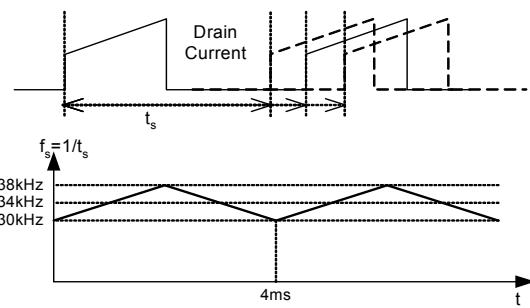

Figure 13. Frequency Modulation Waveform
**7. Frequency Modulation :** Modulating the switching frequency of a switched power supply can reduce EMI by spreading the energy over a wider frequency range than the bandwidth measured by the EMI test equipment. The amount of EMI reduction is directly related to the depth of the reference frequency. As can be seen in Figure 13, the frequency changes from 130KHz to 138KHz in 4 ms for the FSD200B/210B. Frequency modulation allows the use of a cost effective inductor instead of an AC input mode choke to satisfy the requirements of world wide EMI limits.